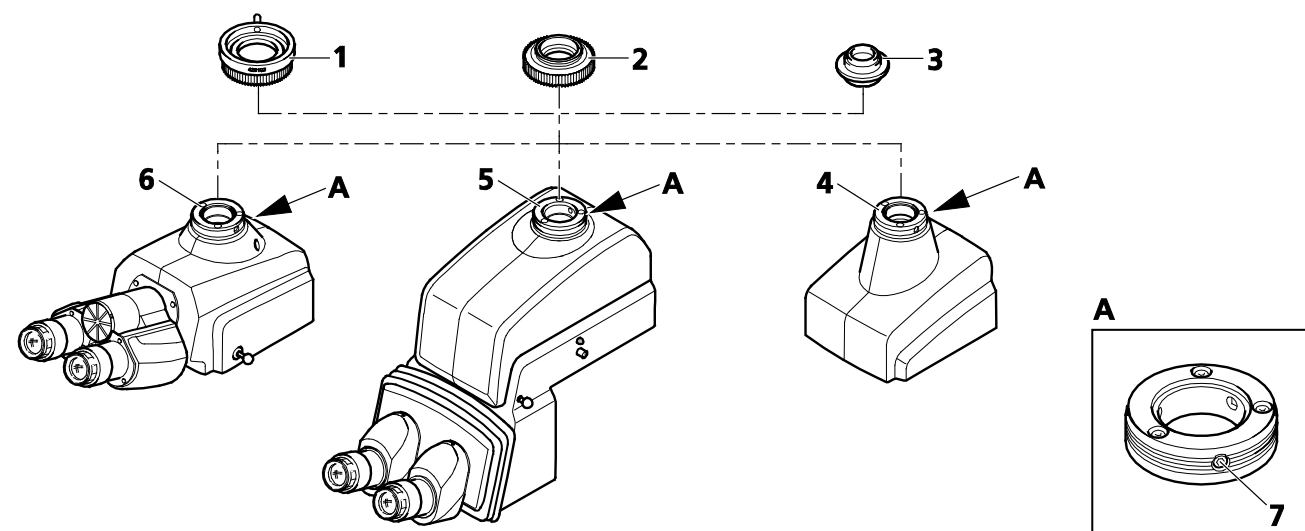

Fig. 24 Using the camera adapter
- Mount the camera adapter 60N (Fig. 24/1; 2) on the camera.
Please observe the following: The setscrew (SW 3) (Fig. 24/7) on the camera port should not project into either the external thread or the inner bore.
- Connect the pre-assembled unit to the camera port (Fig. 24/4, 5 or 6), align and tighten the union nut of the adapter (Fig. 24/1 or 2).
- Mount the camera adapter 60 (Fig. 24/3) on the camera.
- Set the pre-assembled unit on the camera port (Fig. 24/4, 5 or 6). Ensure that the setscrew (Fig. 24/7) does not project too far into the inner bore. Retract as necessary.
- Turn the setscrew (SW 3) on the tube (Fig. 24/7) clockwise until the adapter sits securely.